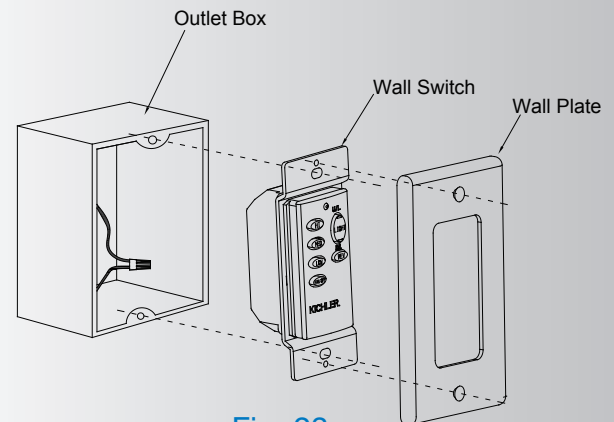

Fig. 23
**Step 2.** Use the screws provided to secure the wall transmitter to the outlet box. (Fig. 23)